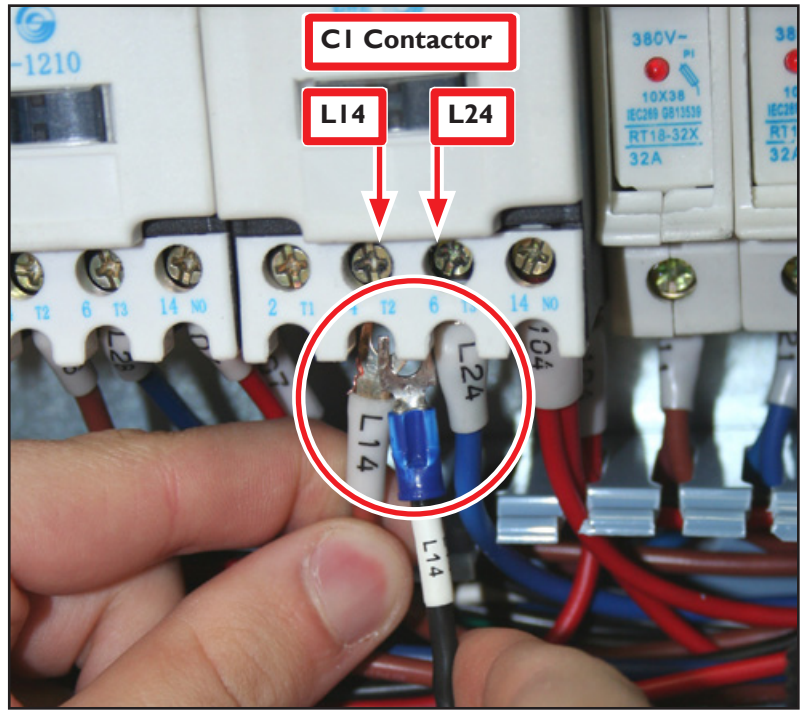

Figure 18
19. Locate the CI contactor in the electrical cabinet and loosen L14 terminal's lock screw (see **Figure 18**).
20. Piggyback the L14 spade terminal onto the existing L14 connection CI contactor as shown in **Figure 18**.